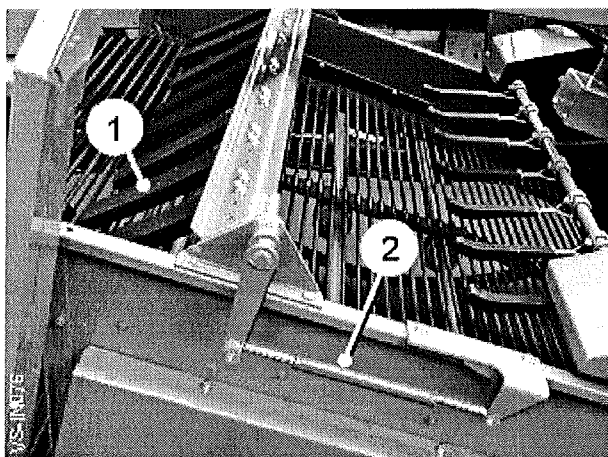

Fig 12
The clod breaking fingers (if fitted) consist of one or two rows of trailing rubber blocks (item 1, fig 12). These operate by rolling the clods and potatoes which, in some soil conditions, has the effect of splitting the clods and allowing the smaller pieces to fall through the web.
To vary their effectiveness the clod fingers can be raised above or lowered down onto the web by adjusting the turnbuckle (item 2, fig 12). Care should be taken not to set the fingers to operate too rigidly onto the web or bruising and skin scuffing may occur.
The turnbuckle (item 2, fig 12) can be replaced with an electric actuator for in-cab adjustment (dependent upon machine specification).